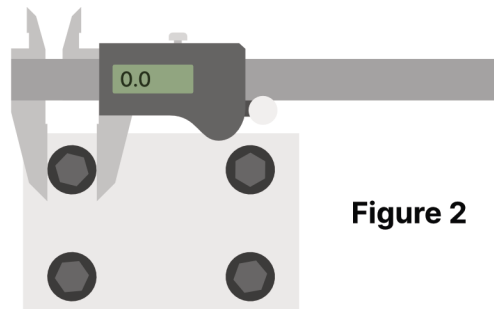

Figure 2
1. Using digital calipers, measure one of the bolt heads, then zero out the display. The measurement of the bolt head is normally about 1.5 times the bolt size. Figure 2 shows the calipers after measuring the bolt head and zeroing out the display.